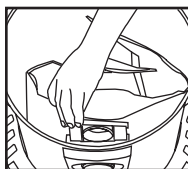

FIGURE 25
33. Slide the inlet deflector with the filter bag attached into the deflector guide. **FIGURE 25.**